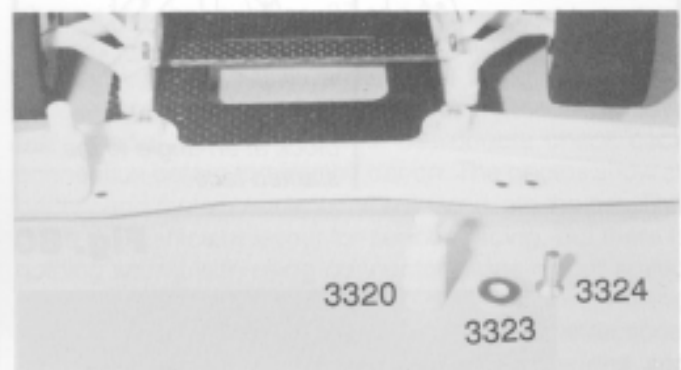

Fig. 78
□ **Fig. 78** Now we need to install the front body mounts. Your kit comes with two different size body mounts (small #4220, and large #3320). Which mount you install will depend upon the body that you are going to run. For the photos we are going to install the #3320 body mount. The two mounts are in bag 1 along with the two #3324 8-32 x 1/2" aluminum FHMScrews. Mount the body mounts on the outside hole on each side of the front bumper using the two 8-32 screws. **Note:** If you are going to install a stock car style body onto a RC10L, you will need a #8186 rear body mounts (which must be mounted on top of the rear chassis brace), and #8304 front body mounts.